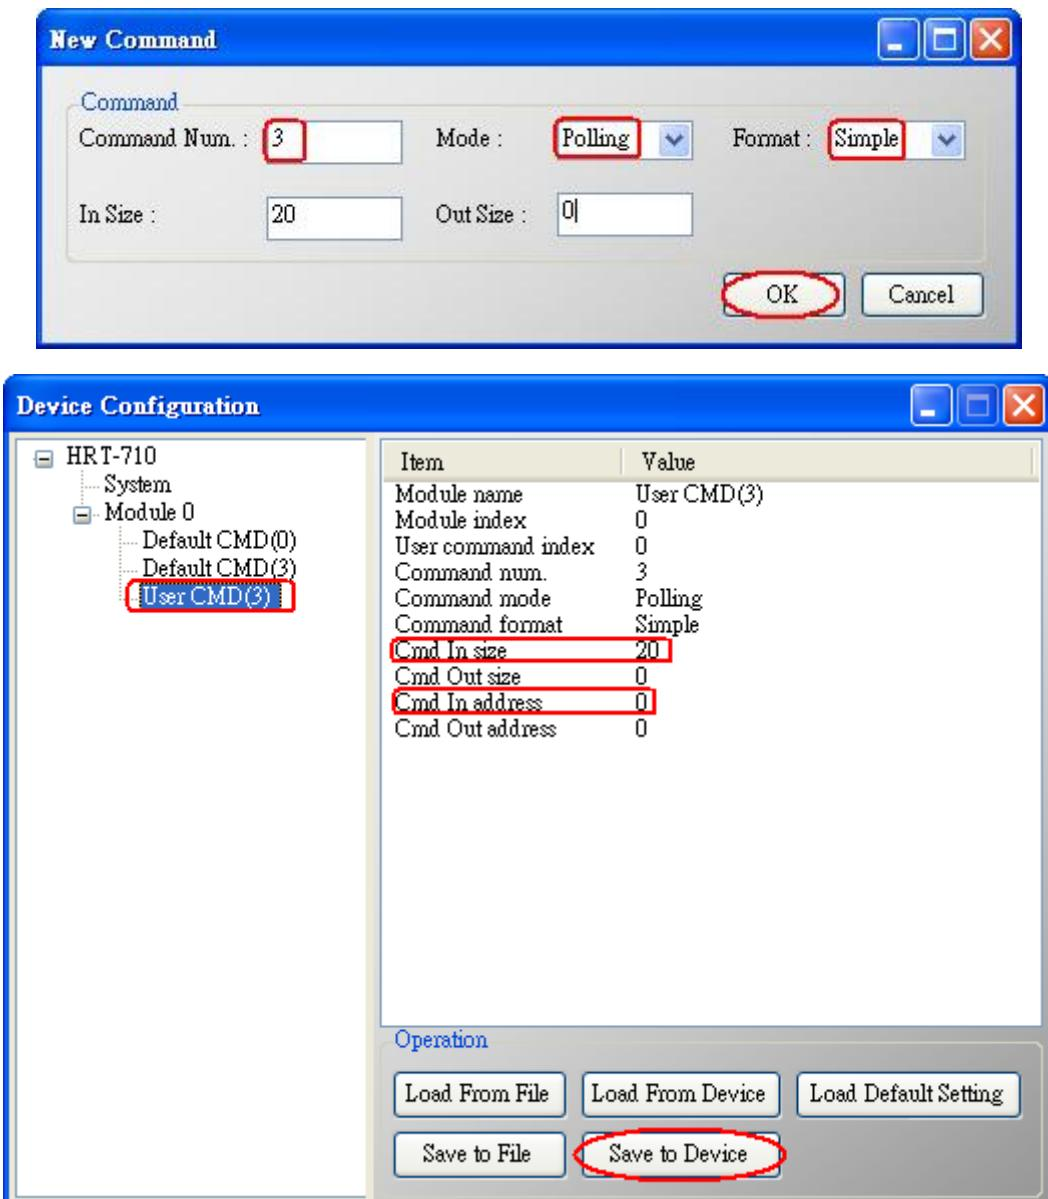

Figure 3-14 Add “User CMD(3)” to HRT-710
[1] Add “User CMD(3)” with “Simple” format and then click “Save to Device” to save the new HART device setting to HRT-710 like Figure 3-14. The mapped Modbus start address and length of User CMD(3) data can be found in “Cmd In address” and “Cmd In size” field. In the example, they are 0 and 20.